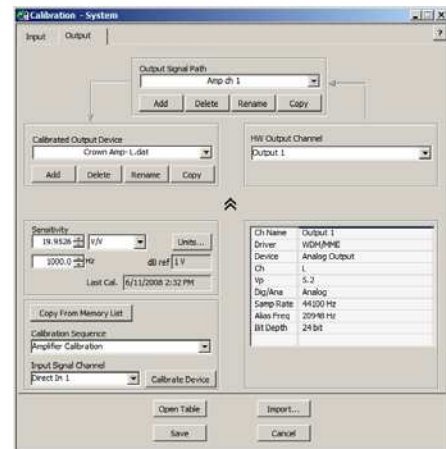

Figure 9: Amp Calibration
2. Select the Output Tab and select the Output Signal Path to calibrate. In the example in Figure 9, “**Amp ch 1**” is selected.